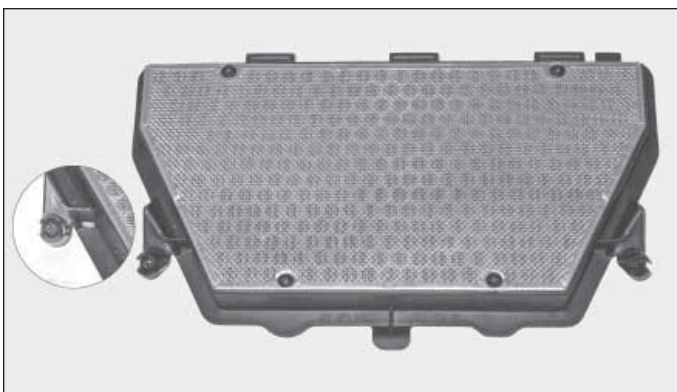

Fig. 1
2. Remove the two air filter screws from stock filter. (Fig.1)